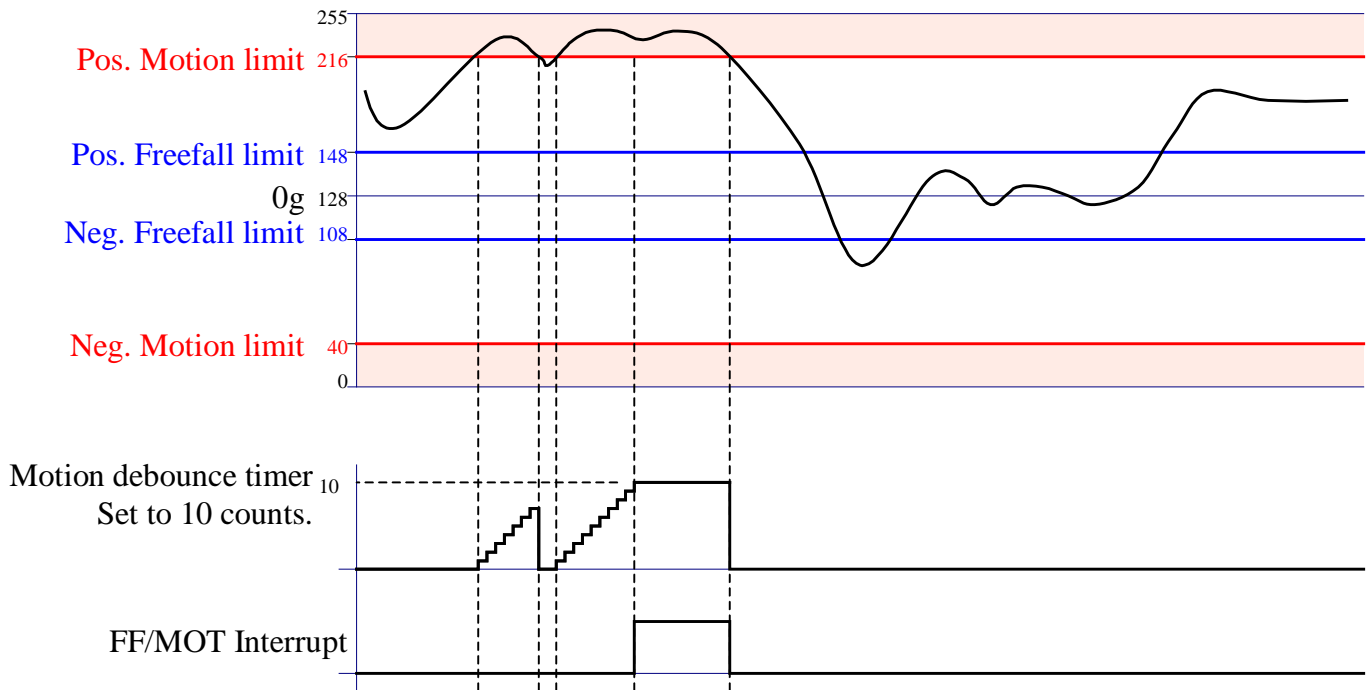

Figure 7. Typical Motion Interrupt Example (MOTLat = 0, MOTen = 1)
**MOTLat** switches the motion interrupt function between latching and non-latching as shown in Figures 7 and 8.
*MOTLat = 1* - The motion interrupt output will go high whenever the criterion for motion detection is met. The interrupt output will remain high until the user toggles the MOT Enable pin (12) low.